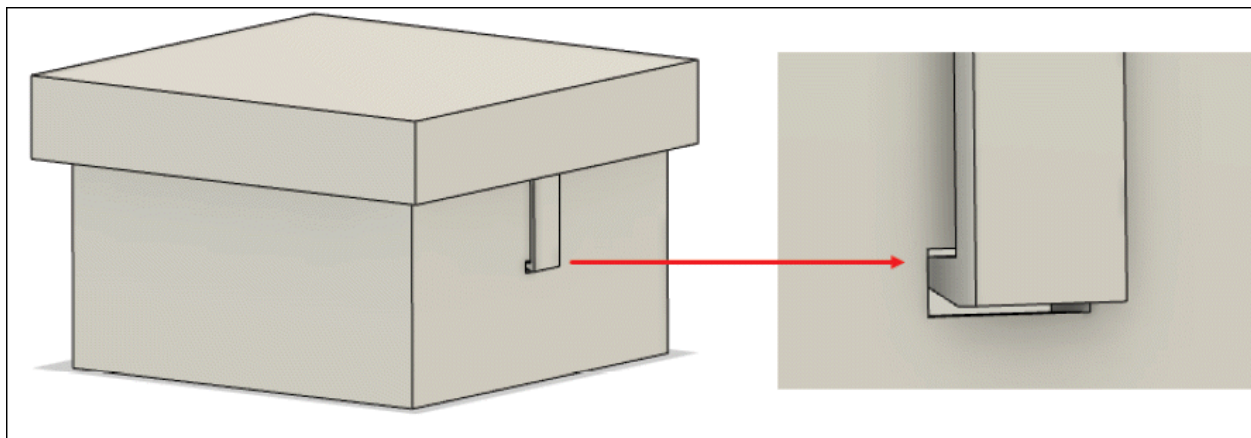

Figure-150. Snap fit feature created
- After specifying desired parameters in the dialog box, click on the **OK** button. The snap fit feature will be created; refer to Figure-150.